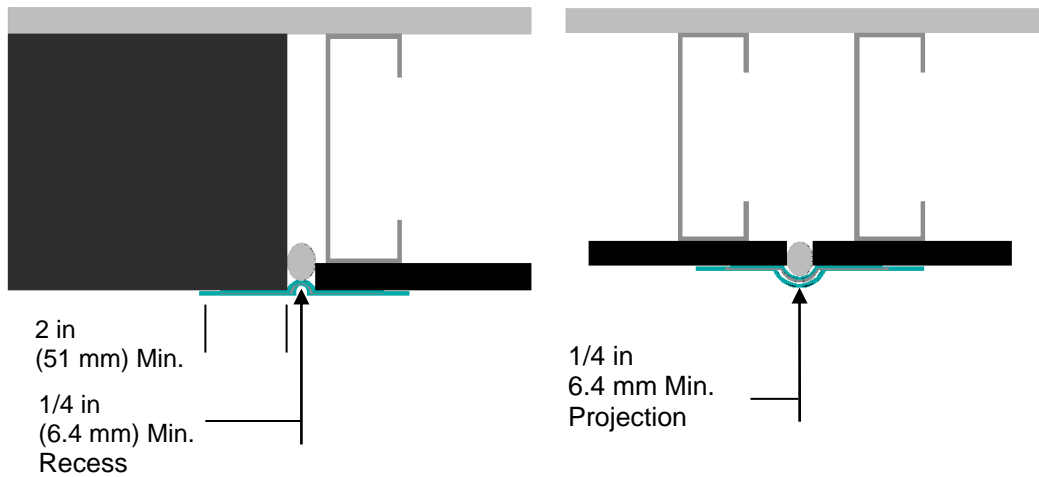

Figure 10
- a. The width of the AquaFlash Mesh must overlap each side of the joint a minimum of 2 in (51 mm) – Figure 10.